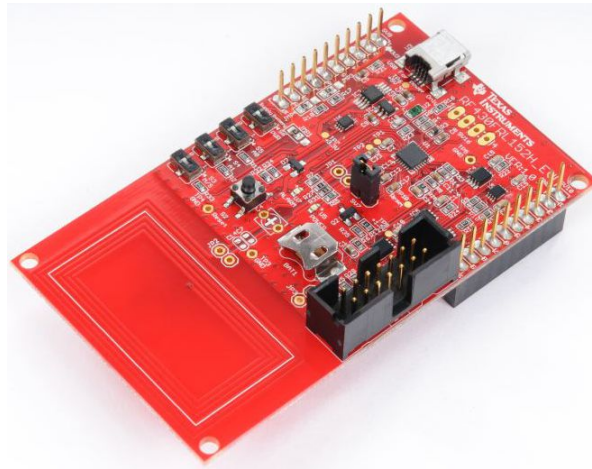

Figure 1. RF430FRL152HEVM
- RF430FRL152HEVM (see Figure 1 below)
Figure 1 shows a photograph of the RF430FRL152HEVM.